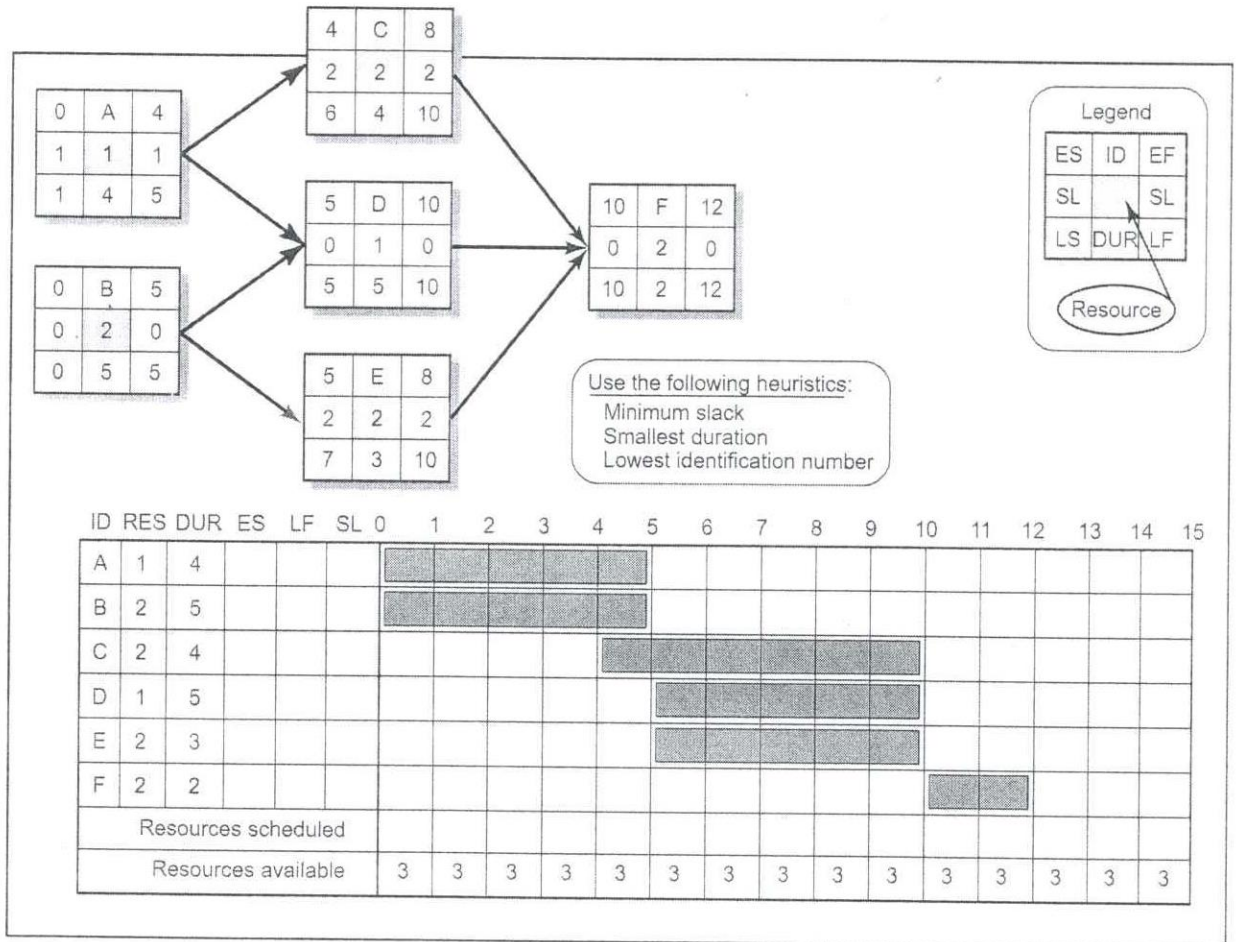

Figure Q5-1 Resource allocation problem
- b) Consider the schedule given in Figure Q5-1 prepared for a project in which the key resource is a tractor. There are three tractors available for the project. Activities A and D require one tractor to complete while activities B, C, E, and F require 2 tractors. Develop a resource-constrained schedule in the loading chart that follows. Use the parallel method and heuristics given. Be sure to update each period. Record the early start (ES), late finish (LF), and slack (SL) for the new schedule.